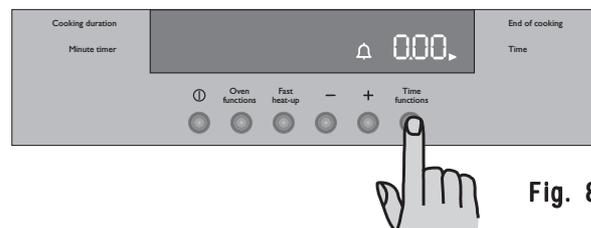

Fig. 8
- 1) Press button Time function to select the Minute Minder function (Fig. 8). The relevant  symbol will flash and the control panel will display "0.00".